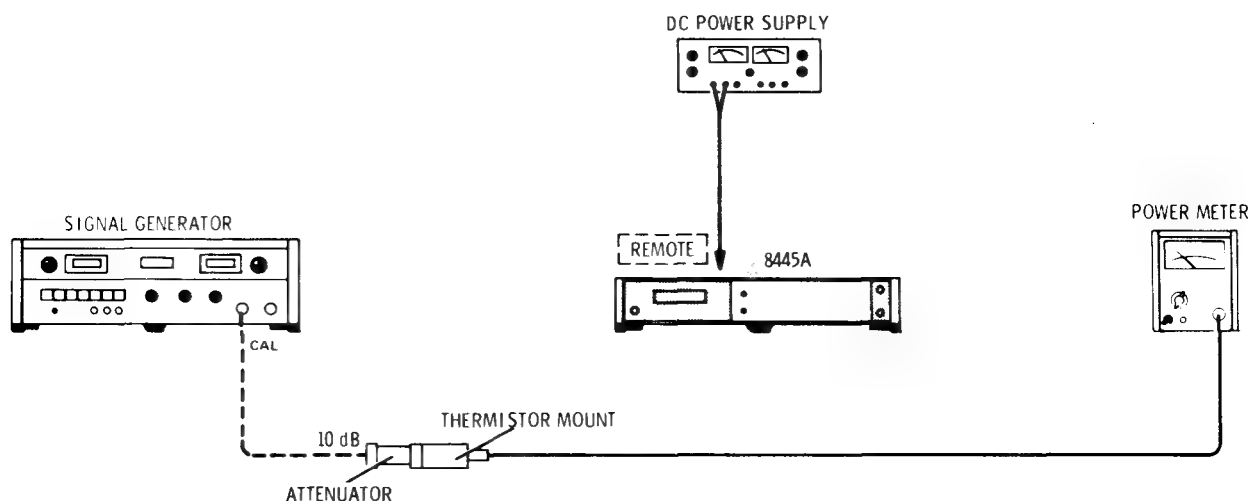

Figure 4-4. Yig Filter Signal Compression Test Setup
1. Connect test setup as indicated in Figure 4-4 and make the following control settings: